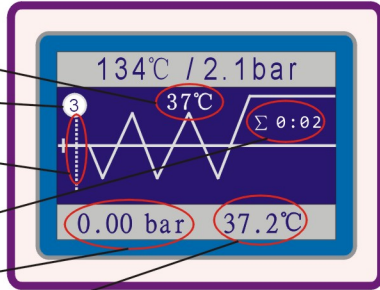

Fig.6.4-1
(1)**Heating coil preheating stage:**when temperature heating coil less than 40°C, the Control system stops vacuuming. Heating coil temperature must be raised above 40°C before they start vacuuming. (Fig.6.4-1)